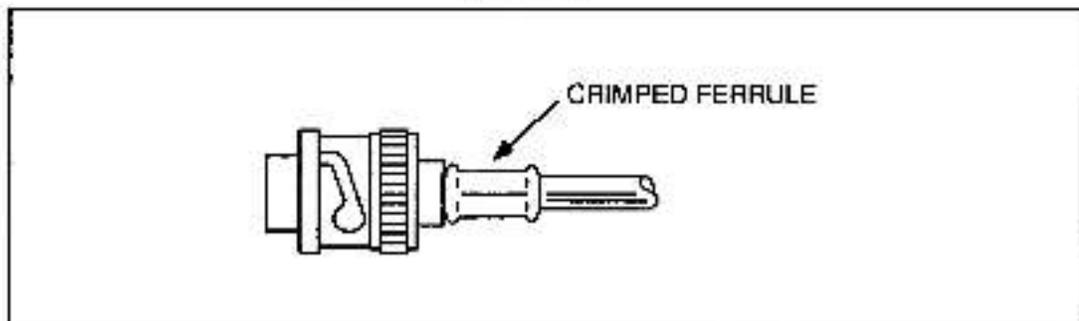

Figure 3.15 - Connector Attached to RG-59/U Cable
- Step 11. Remove the crimped assembly from the crimping dies. The connector is now attached to the coax cable, as shown in figure 3.15.